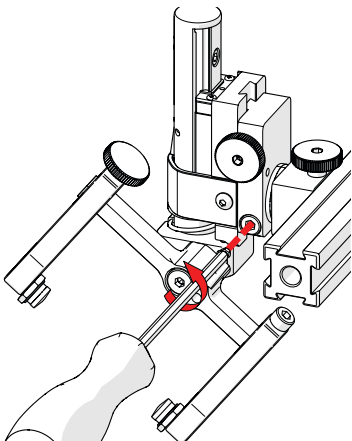

Fig. 117 - Loosen 3 mm screw
2. Using the supplied 3 mm hex driver (*Fig. 1*), loosen the longitudinal adjustment screw (*Fig. 117*).